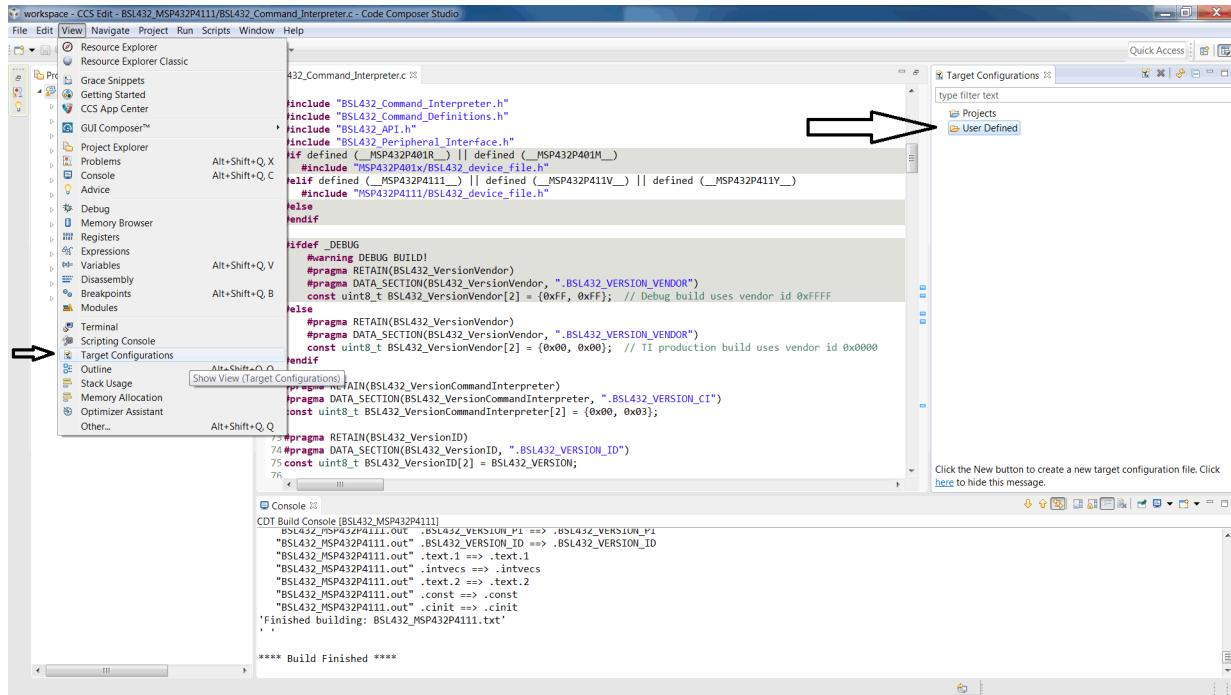

Figure 10. View Target Configurations
1. Click View → Target Configurations. The Target Configurations window opens in the IDE (see Figure 10).